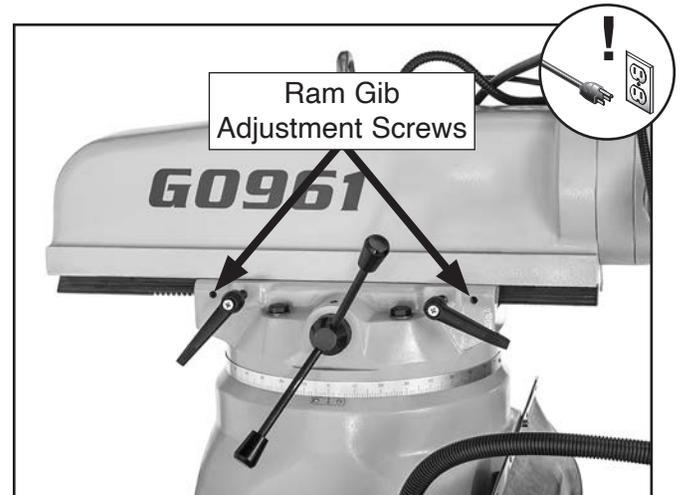

Figure 61. Ram gib adjustment screws.
3. Loosen (1) gib adjustment screw (see **Figure 61**), then loosen opposite screw same amount to move gib.